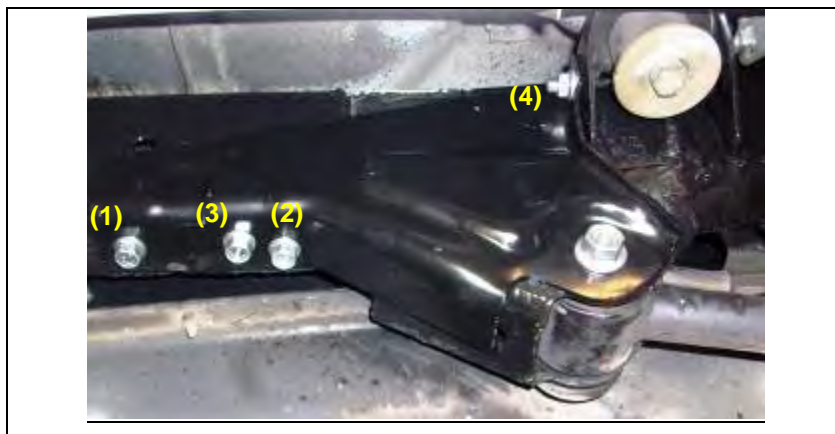

Figure 26
20. Torque the bolts in the sequence and to the specifications shown in Figure 26.